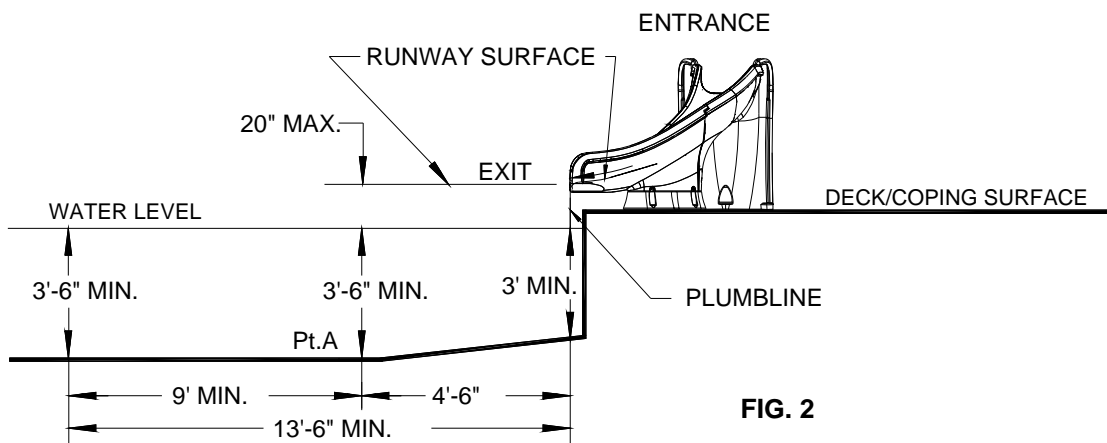

FIG. 2
- A. The slide exit runway surface shall not exceed twenty inches (20") above the water surface as shown in **FIG. 2.**
- C. The minimum depth of water below the exit lip of the slide shall be three feet (3') and increase to three feet six inches (3'-6") at Pt. A, which is a distance of four feet six inches (4'-6") from the exit lip of the slide as shown in **FIG. 2.**
- D. A minimum depth of three feet six inches (3'-6") shall be maintained at a distance of nine feet (9') along the extended centerline of the slide from Pt. A. as shown in **FIG. 2.**